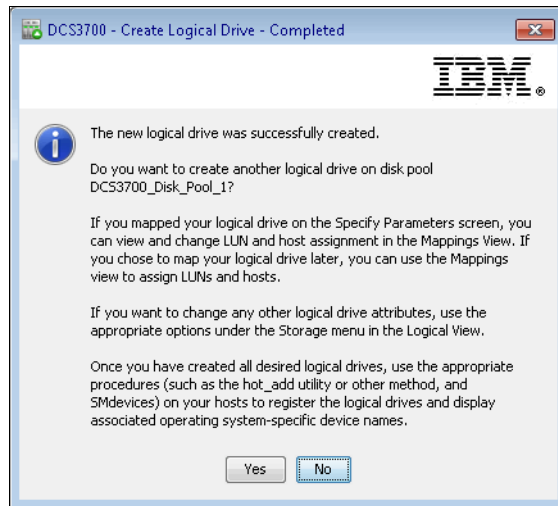

Figure 8-33 Create Logical Drive Completed
7. Click **Finish** and the Logical Drive Successfully Created dialog opens, as shown in Figure 8-33.